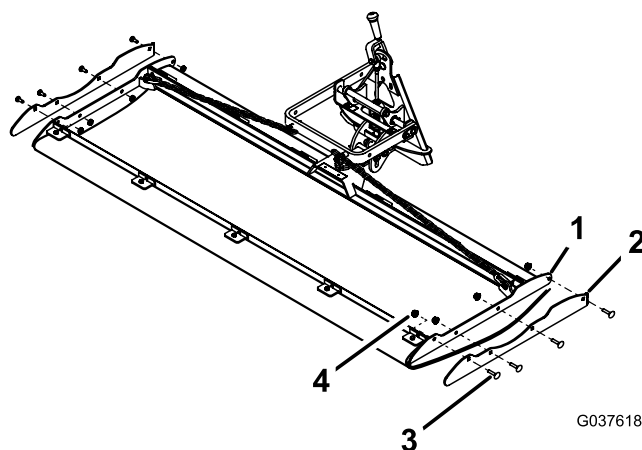

Figure 8
5. If you will be using the drag mat carrier on a golf green, remove the skid located on each side of the carrier frame (Figure 8).